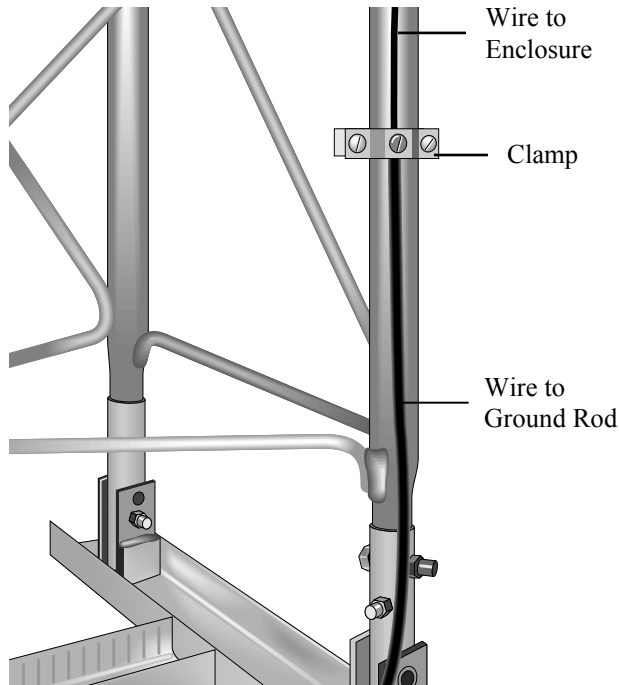

FIGURE 2.1-11. Tower grounding clamp
3. Attach the tower grounding clamp to a tower leg (Figure 2.1-11). Route the 4 AWG wire attached to the ground rod up the tower leg to the grounding clamp. Loosen the set screw and insert the 4 AWG wire and the 24 AWG enclosure ground wire into the hole behind the set screw and tighten the set screw. Route the green wire to where the enclosure will be installed.